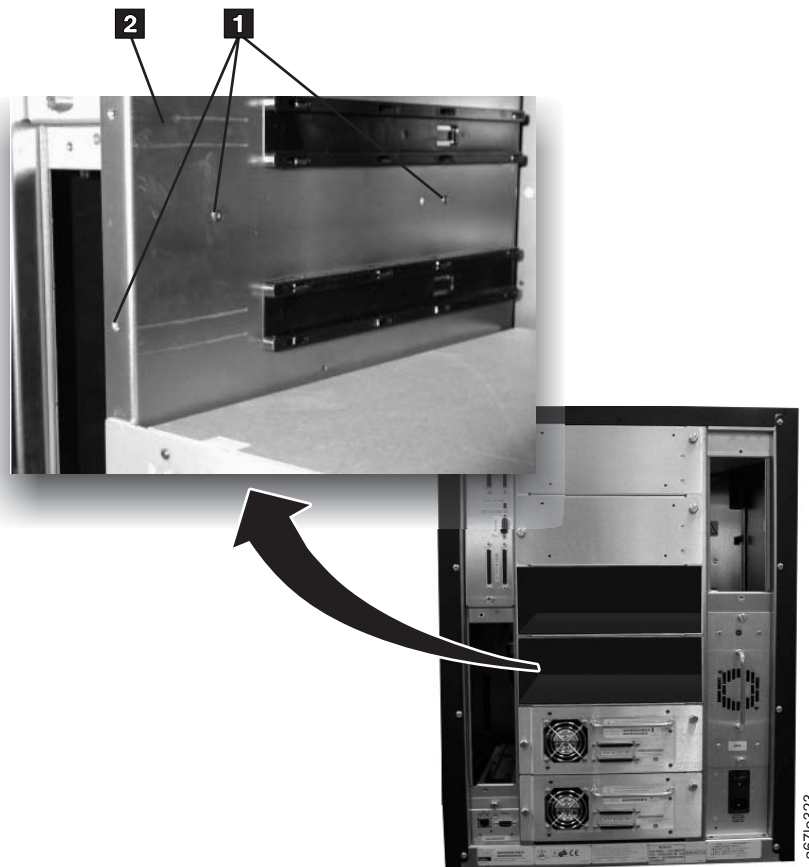

Figure 8-34. Removing the T8 Torx Screws that Secure the Fibre Channel Bracket Sub-Assembly
5. Remove the three T8 Torx screws (**1** in Figure 8-34) that secure the Fibre Channel Bracket Sub-Assembly **2** to the chassis and slide the bracket out of the chassis. (Two of the screws are located between the guide rails for drives 3 and 4. The third T8 Torx screw is located on the outside of the chassis.)